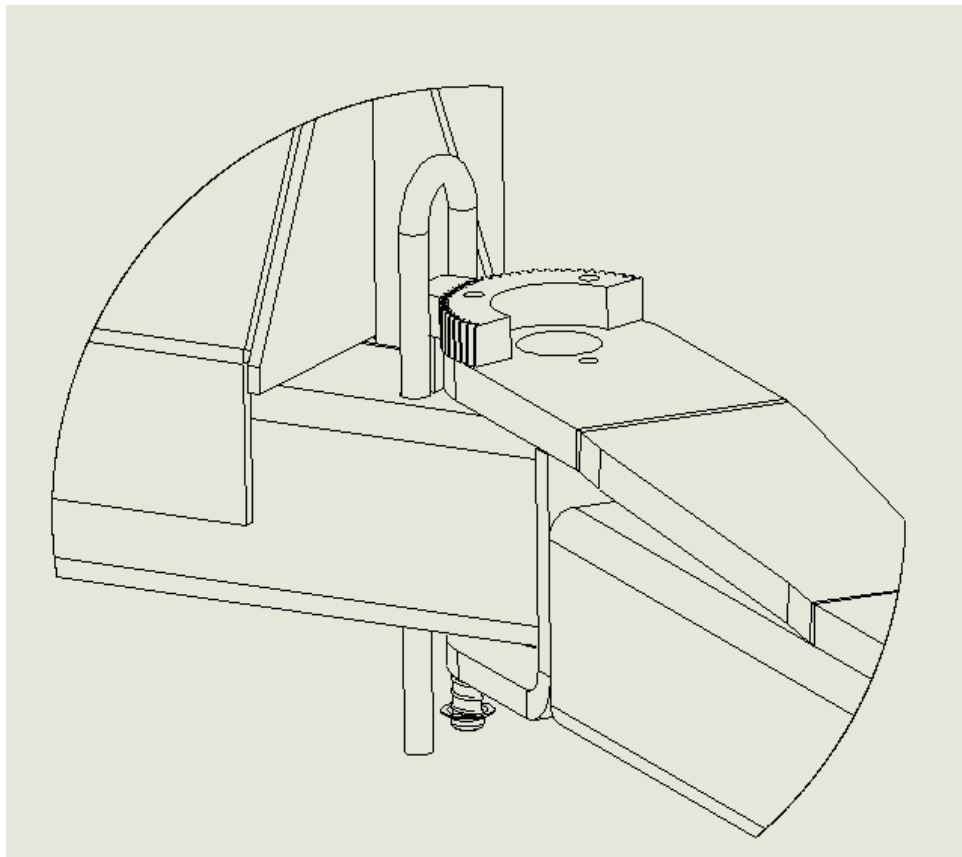

Figure 7 – Arm Restraint Installation
1. Refer to **Figure 7** - arm restraint installation.